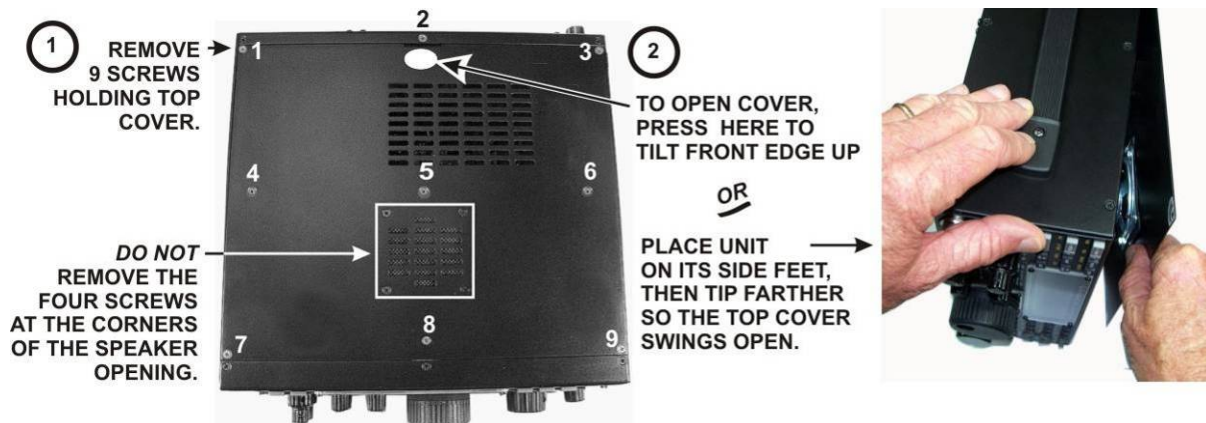

Figure 1. Removing K3 Top Cover.
Noise Figure:	1 dB typical
- Remove the nine screws to free the top cover as shown in Figure 1. After the cover is open, lift it gently to reach the speaker wire connector. Unplug the speaker then set the top cover aside in a safe place.
□ Position the top cover on the K3. Note that the tab on the back center goes under the rear lip of the K3 rear panel. Secure the top cover with the nine 4-40 3/16" (4.8 mm) black flat head screws you removed earlier (see Figure 1 on page 9 for the screw locations).